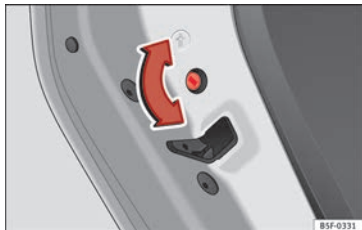

Fig. 95 Childproof lock on the left hand side door.
- With the door open, rotate the groove in the door using the ignition key, clockwise for the left hand side doors » **Fig. 95** and anti-clockwise for the right hand side doors.
- With the door open, rotate the groove in the door using the ignition key, anti-clockwise for the left hand side doors » **Fig. 95** and clockwise for the right hand side doors.